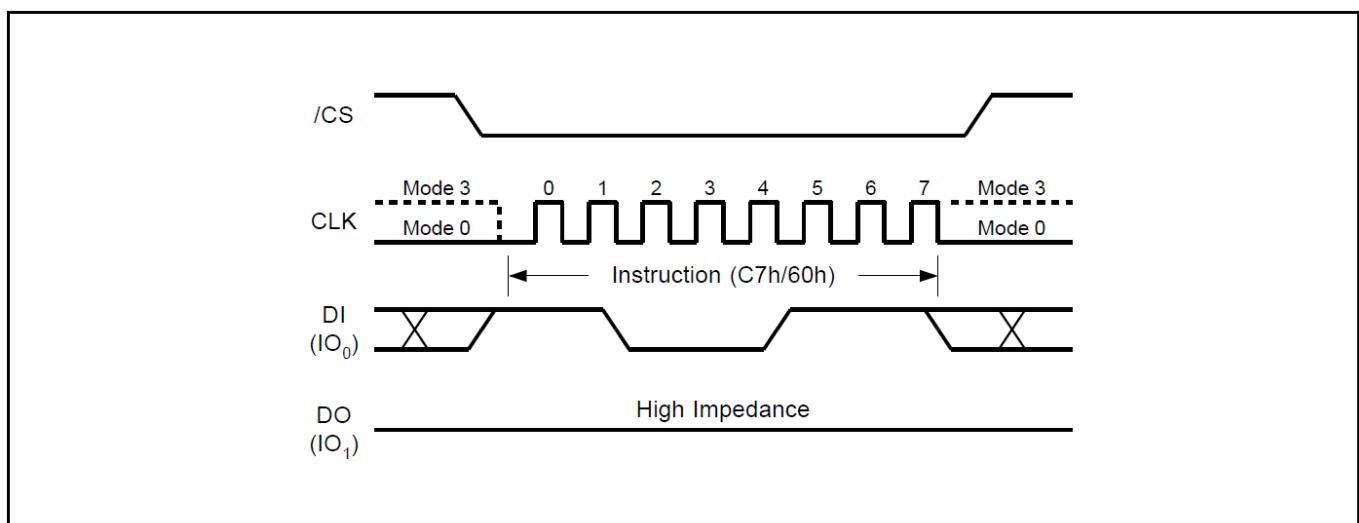

Figure18. Chip Erase Sequence Diagram
The Chip Erase command sequence: CS# goes low → sending Chip Erase command → CS# goes high. The command sequence is shown in Figure18. CS# must be driven high after the eighth bit of the command code has been latched in; otherwise the Chip Erase command is not executed. As soon as CS# is driven high, the self-timed Chip Erase cycle (whose duration is T_{CE}) is initiated. While the Chip Erase cycle is in progress, the Status Register may be read to check the value of the Write in Progress (BUSY) bit. The Write in Progress (BUSY) bit is 1 during the self-timed Chip Erase cycle, and is 0 when it is completed. At some unspecified time before the cycle is completed, the Write Enable Latch (WEL) bit is reset. The Chip Erase (CE) command is executed, if the Block Protect (BP2, BP1, and BP0) bits are 0 and CMP=0 or the Block Protect (BP2, BP1, and BP0) bits are 1 and CMP=1.